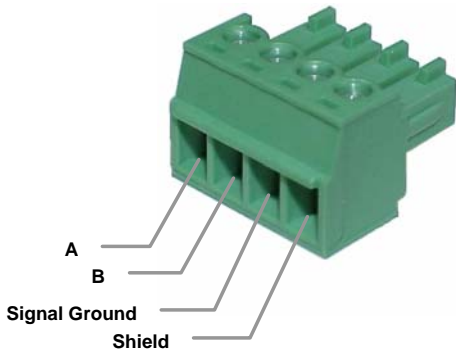

Figure 31: G7/Q7/H7/W7 RS485 Terminal Block (CN3) Connections
- The Toshiba RS485 terminal block connections for G7/Q7/H7/W7 drives are shown in Figure 31 for reference only. Because there are many possible RS485 port configurations & options available for the various Toshiba drives, please refer to the relevant Toshiba documentation for your drive.